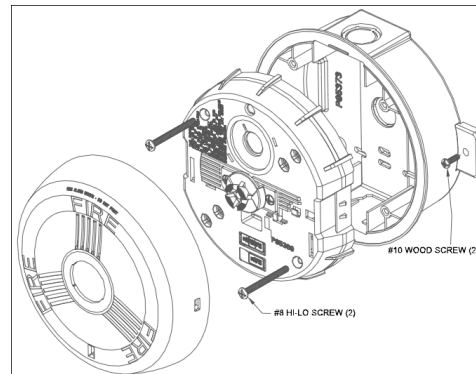
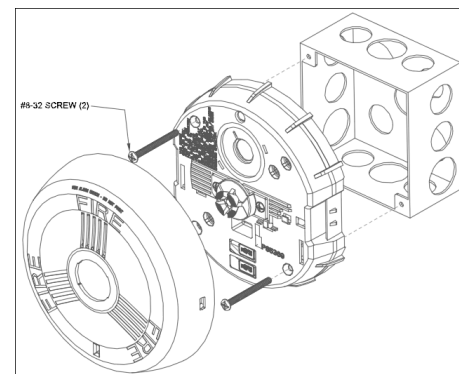

Figure 5: Ceiling Horn Strobe with LSPKBBC Surface Mounting Box
Figure 6: Horn Strobe Installation with 4" Backbox
- Install device as shown in Figure 5 or Figure 6 (4" square backbox) with the screws provided.